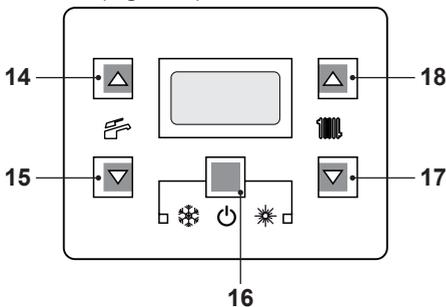
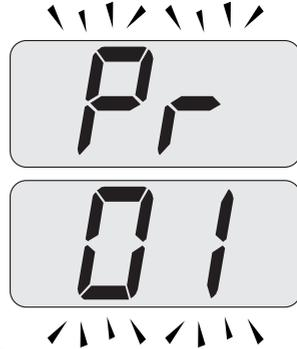
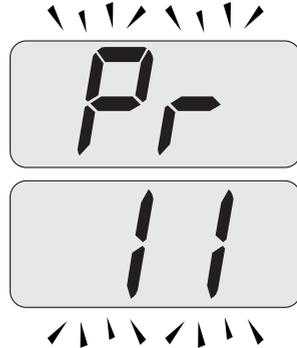

Fig. 8.14
Fig. 8.15
Fig. 8.16
- Enter in "programming mode" by sequentially pressing keys 16 - 17 - 18 (Fig. 8.14) for 10 seconds at the same time until the letters **Pr** that alternate with code **01** are displayed on the LCD display, indicating that "parameter 01" (Fig. 8.15) has been activated.
- Scroll the various parameters using keys 17 or 18 until the letters **Pr** that alternate with code **11** are displayed on the LCD display, indicating that "parameter 11" (Fig. 8.16) has been activated.
- Press keys 16 and 18 (Fig. 8.14) at the same time until the value of parameter 11 (10=60 seconds) (Fig. 8.17) is displayed on the LCD display .
- By pressing key 16 (Fig. 8.14) confirmation of the inserted value is obtained.
- Press keys 16 and 17 (Fig. 8.14) at the same time to exit without changing the value (return to the parameters list Fig. 8.16).
- Press sequentially keys, 16 - 17 and then 18 (Fig. 8.14) and hold in for 10 seconds to exit the "programming mode".